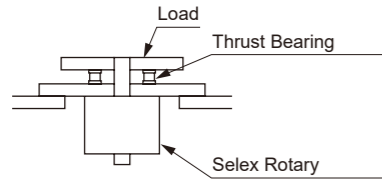

Figure 1
■ If the axial load (thrust load) on the shaft exceeds the allowable value, faulty operation could occur. Therefore, do not apply a load in excess of the allowable value. If unavoidable, use a structure with a thrust bearing as shown in Figure 1.
(1) First, loosen the Hexagon Nut to the state shown in Figure 1.